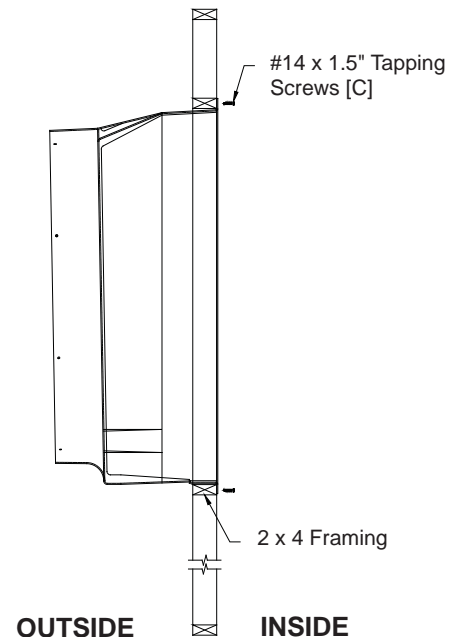

Figure 2
Insert fan into the framed opening from the inside. While lifting fan up tight to framing, fasten top of fan with the (3) Fasteners [C] (provided). **See Figure 2.** Next, fasten bottom of fan, then both sides with remaining (9) Fasteners [C] screws (provided). Install flashing around opening tight to fan and caulk around fan to seal.